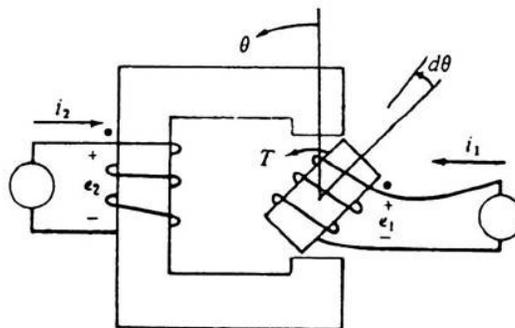

Figure B.2
B.2. For the doubly excited system in Figure B.2, the inductances are approximated as follows: $L_1 = 11 + 3 \cos 2\vartheta$, $L_2 = 7 + 2 \cos 2\vartheta$, $M = 11 \cos \vartheta$ H. The coils are energized with direct currents. $I_1 = 0.7$ A. $I_2 = 0.8$ A.